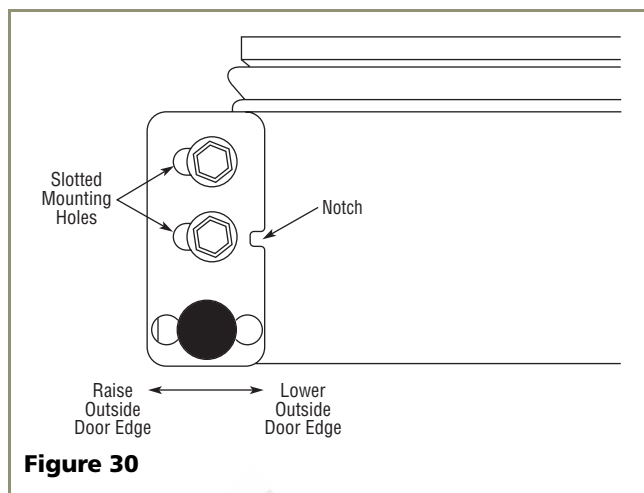

Figure 30
3. See **Figure 30**. If the top far edge of the door needs to move UP, move the hinge plate toward the outside of the door and retighten screws. If the top far edge of the door needs to move DOWN, move the hinge plate toward the inside of the door and retighten screws.